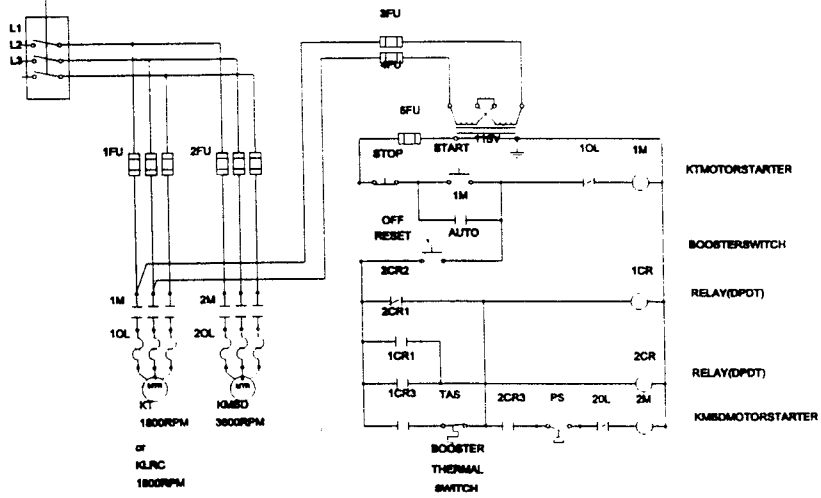

Figure 1 Typical wiring diagram, KMBD/KT, CB & KMBD/LR
8. Complete electrical wiring. Typical wiring diagrams are shown on Figures 1, 2, and 3 on the opposite page, and in the manual for the backing pump. Consult Kinney Vacuum for further assistance if required. Check each electrical device for correct wiring voltage.